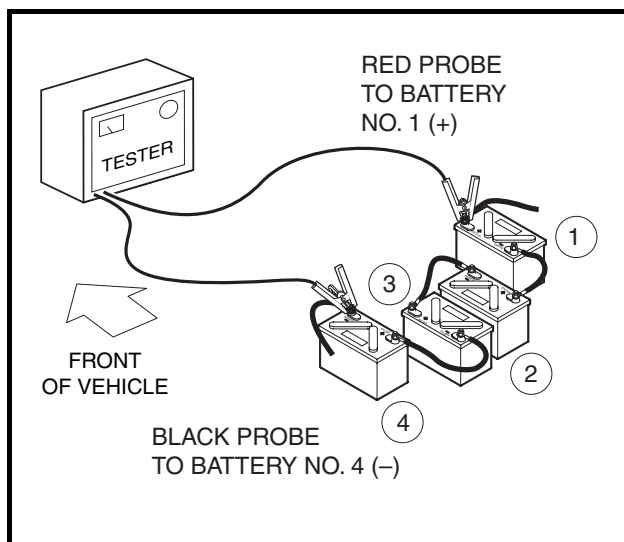

Figure 24-3 Battery Discharge Test
2. Connect the tester leads to the positive (+) post of battery no.1 and negative (-) post of battery no. 4 (Figure 24-3, Page 24-5).